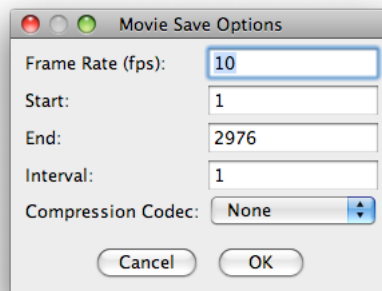

Figure 7.9 The Movie save options dialog
**Save** allows the user to save the movie as a Windows ‘avi’ or Quicktime ‘mov’. When a movie is saved the user is first presented with a dialog to select the name of the movie to save. Once a file is selected the a second dialog appears allowing the user to set a number of options (Figure 7.9) where